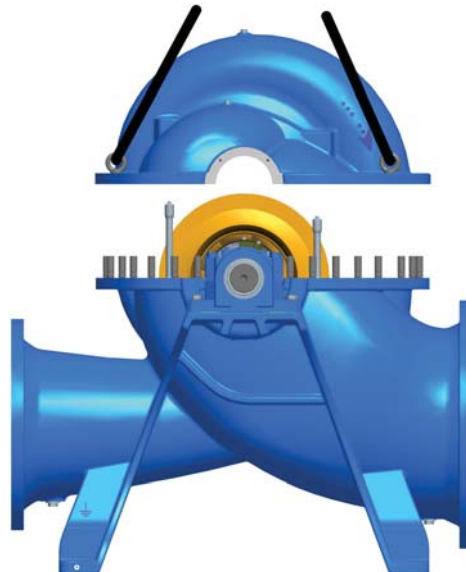

Fig. 5-3 Lifting the upper part
- The upper part of the volute case can be raised at the points marked (lugs) with the aid of shackles Fig. 5-3.